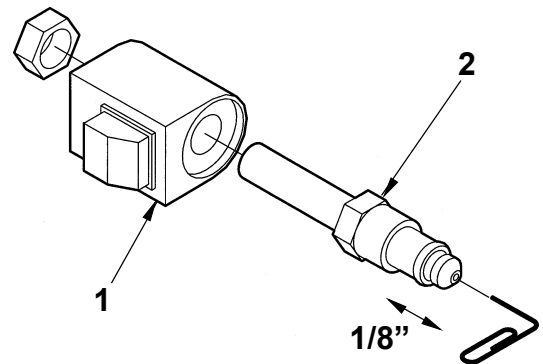

FIGURE 2
2. Check the Valve Stem by removing the Coil Assembly, (**Item 1, Fig. 2**). Unscrew the Valve Stem, (**Item 2, Fig. 2**), from the Pump. Push on the plunger that is located inside the Valve Stem by inserting a paper clip in the end. If the Plunger does not move freely approximately 1/8", replace the Valve Stem.